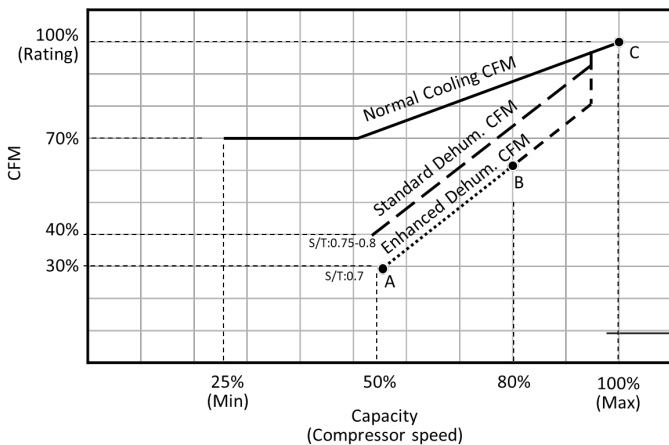

Figure 1
- » The system can provide Dehumidification operation in setting “A”, “B” or “C” based on dehumidification demand. In the Enhanced Dehumidification the indoor airflow is lower than Standard Dehumidification. See Figure 1.
- » The minimum compressor speed during Dehumidification can be selected from 3 types A, B, or C. Setting “A” allows for the widest compressor range with lower cfm than standard dehumidification. Setting “B” limits compressor operation range and keeps high dehumidification capacity. In setting “C” the system runs fixed at 100% compressor and airflow. See Figure 1.